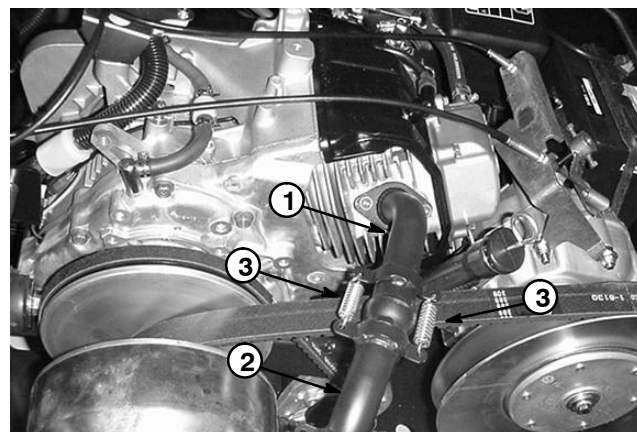

Figure 13
3. Remove springs securing the exhaust coupler to the muffler and exhaust manifold (Fig. 13).